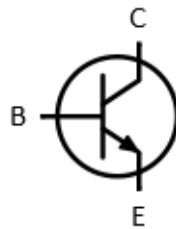

FIGURE 3-9: NPN BJT Symbol
In order to understand how phototransistors work, we will first look at a regular transistor. Transistors are three terminal devices that act as linear amplifiers, or, on a basic level, as switches. In this class, we will primarily be working with *Bipolar Junction Transistors*, or BJTs, shown in the figure below. BJTs have three terminals labeled base (B), collector (C), and emitter (E). The direction of the arrow points in the direction of current flow. (The symbol and operation listed in Figure 3-9 is for an NPN BJT. You may work with PNP BJTs later for your project, which have a different symbol and operation.)